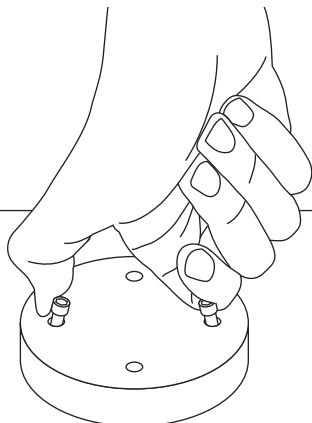

Figure 4.3: Piston cap removal
3. Loosen the piston cap bolts and remove the piston cap as shown in figure 4.3 by pinching two loose bolts together.
3. Remove the piston cap by loosening and removing the socket head bolts holding the piston cap to the piston (see figure 4.3).